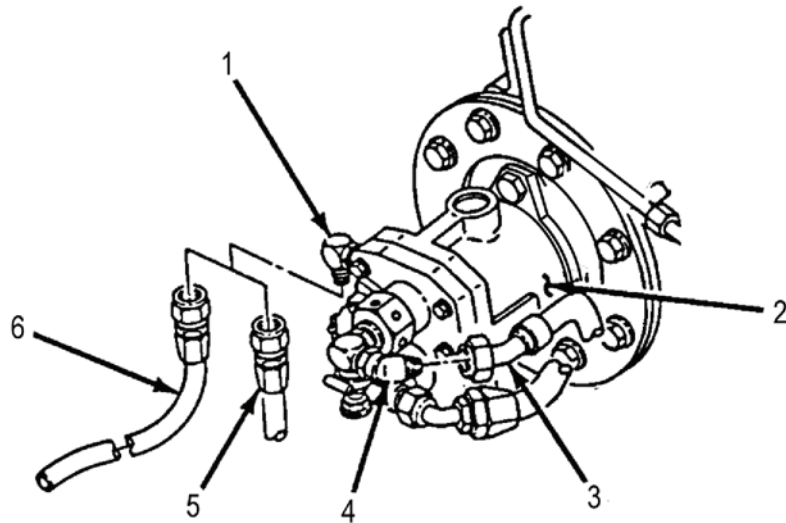

Figure 52. Compensating Pump
- Disconnect SPNSN PUMP-9 hose (Figure 52, item 3) from elbow (Figure 52, item 4) on compensating pump (Figure 52, item 2). Cap elbow (Figure 52, item 4) and plug hose (Figure 52, item 3).
- Disconnect SPNSN PUMP DRAIN-7V hose (Figure 52, item 5) from elbow (Figure 52, item 1). Plug hose (Figure 52, item 5). Connect drain hose (Figure 52, item 6) to elbow (Figure 52, item 1).
- Hold end of drain hose (Figure 52, item 6) in graduated container.